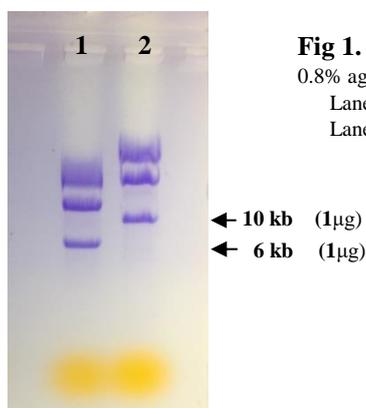

Fig 1. Agarose gel electrophoresis using the gel containing Crystal Violet.
8. Monitor the long ssDNA blue bands moving in the gel during electrophoresis (Figure 1). Stop the electrophoresis after the bands are sufficiently resolved. *11, *12